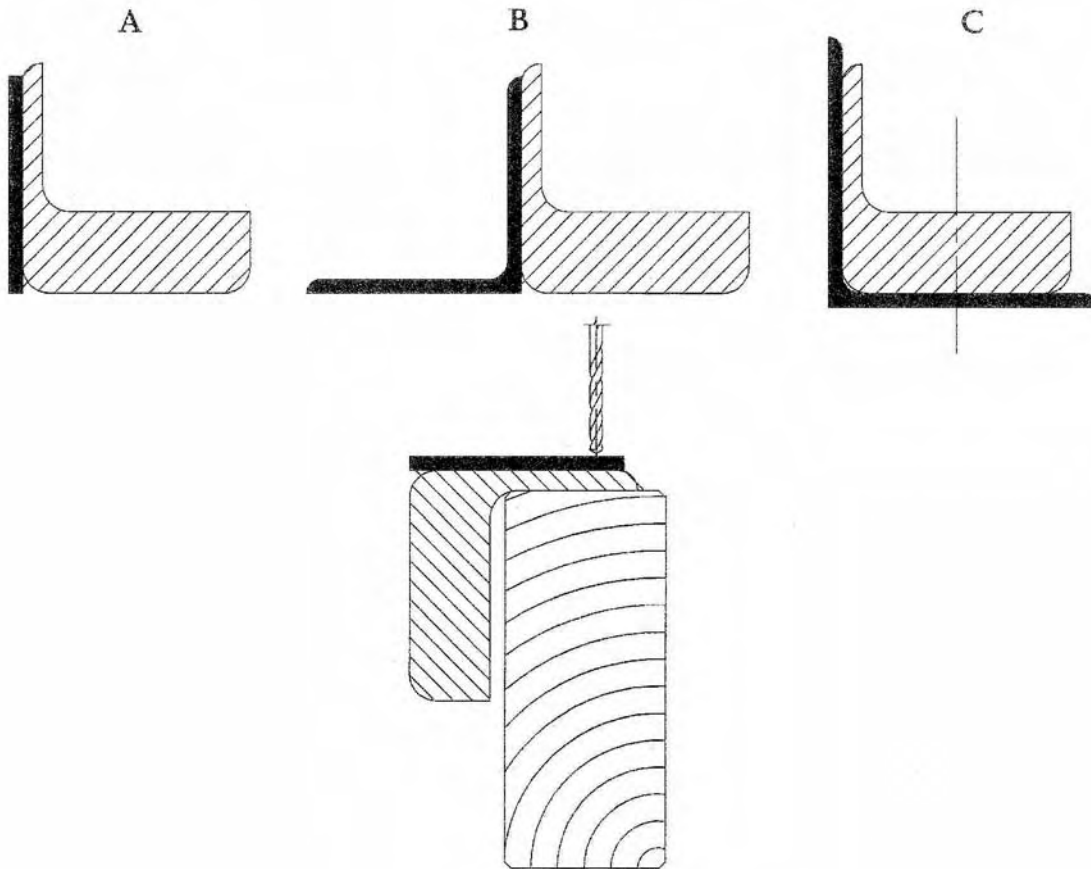

Figure 4.1.1): Spar Cap Flange Drill Template Options
inches wide, works well. Angle iron and aluminum has also been used successfully. See Figure 4.1.1).
- 4.1.4) Use the template thus created to locate the holes in the new lower spar cap. See Figure 4.1.1) and drawing 94419 sht. 1. Again, use of a transfer punch will improve the accuracy of the hole transfer operation.
- 4.1.4.1) Figure 4.1.1) shows some possible templates for transferring the holes from the old spar cap to the new one. With any of them, it is critical to establish the location of the inboard end of the spar cap. A scribe line is sufficient. If type C is used, drill through the second (5/16") hole in the old spar cap to positively locate the spar cap. If using type A or B, be very careful to align the bottom edge of the spar cap and the template. Type C can only be used if the corners of the spar cap are radiused, as shown. A single piece of angle can serve as a type B or C template for both left and right caps, but it must be at least 2 1/2 x 2 1/2.